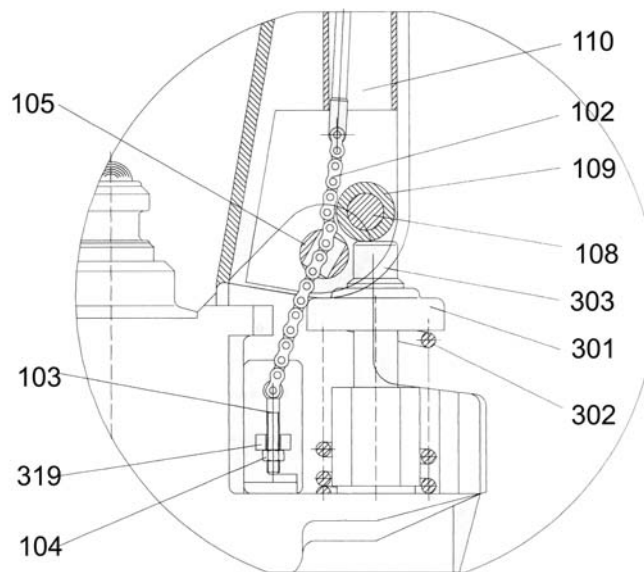

Fig. 3
2.2 Let control handle(117 or 120G) to the '**LOWER**' position, then pass the adjusting nut(104), adjusting bolt(103) and chain(102) through the hole of axle(105) with your hand (See fig. 3).